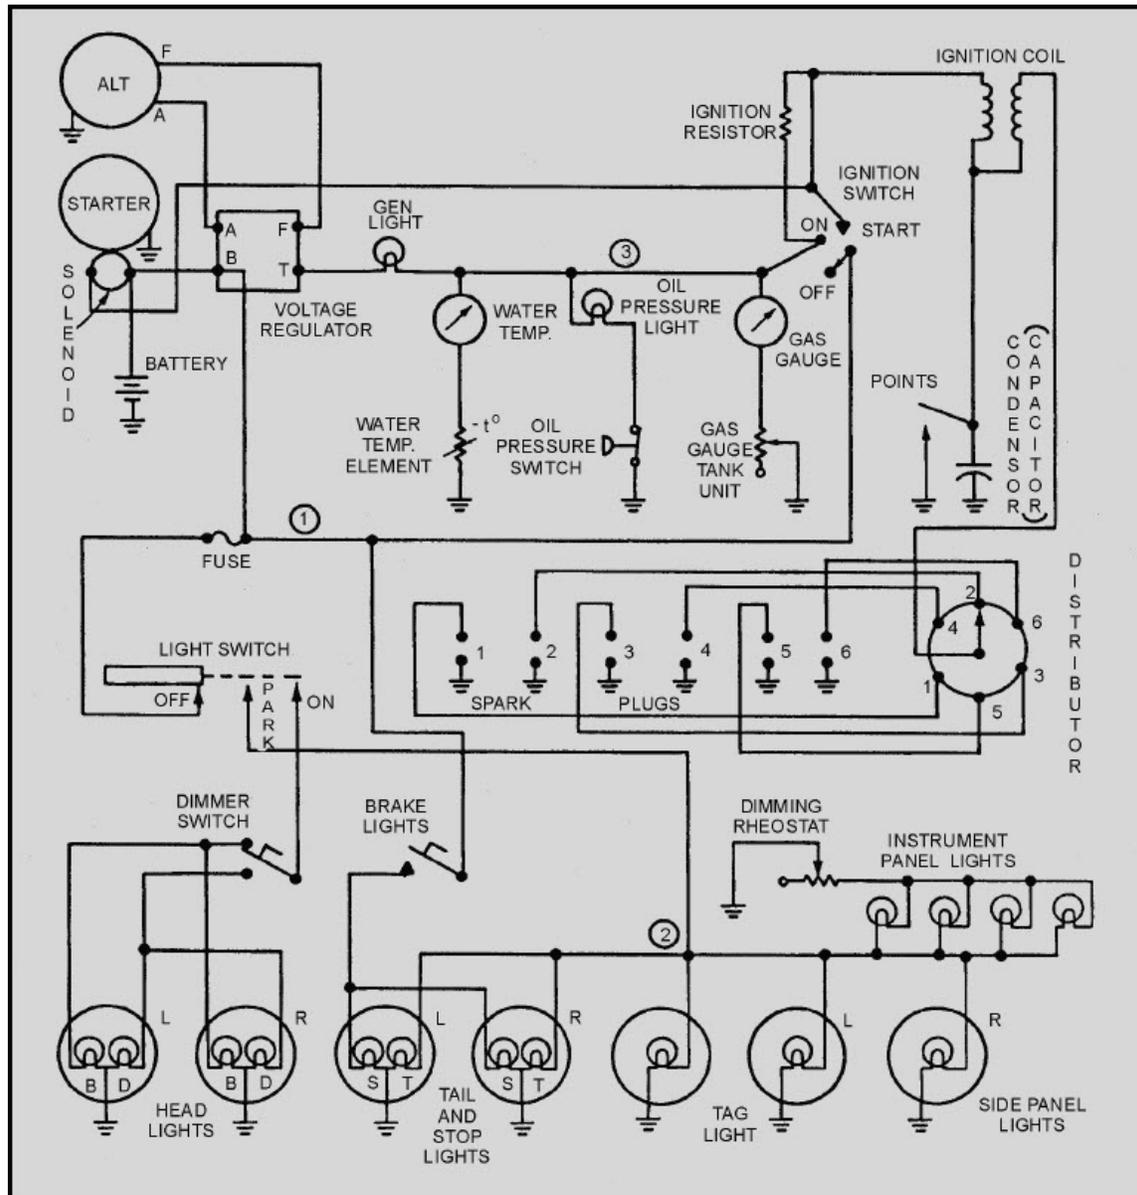

Figure 3-10 Schematic diagram
Figure 3-10 is a schematic diagram of an automobile electrical system. The automobile electrical system uses the frame of the automobile as a conductor. The frame is called the ground side. Figure 3-10 shows all the electrical components grounded on one side. The negative side of the battery is also grounded. Therefore, the frame is the negative conductor of the system. The opposite side of each of the components is connected through switches to the positive side of the battery. For the purpose of teaching schematic reading, we will discuss only the lighting system and engine instruments.
Q11. Refer to the schematic diagram in figure 3-10. If the ignition switch is placed in the ON position and all the engine instruments operate properly except the gas gauge, where would the fault probably be?
Q12. If the fuse shown on the schematic (figure 3-10) opens, what lights will operate?
In the discussion of schematic diagrams, you will recall that when the light switch is pulled to the PARK position, the tail lights, side panel lights, tag light, and the instrument lights come on. Now, suppose that when the light switch is pulled to the PARK position all the lights come on, except the tag light. Referring to the schematic diagram (figure 3-10), you will recall that when the light switch is placed in the PARK position, +12 volts are applied to point (2). If all the lights come on except the tag light, then the fault must be between point (2) and the tag light ground.